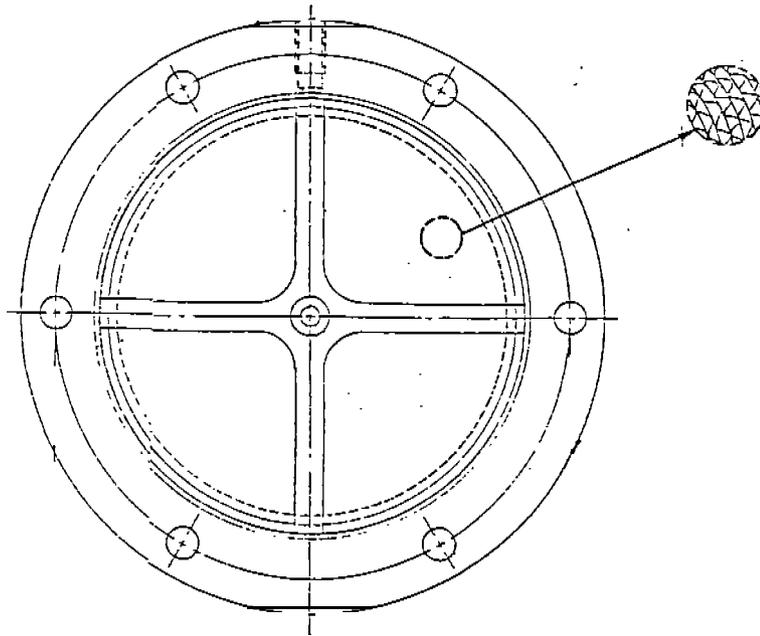

Figure 3. Intake Flame Arrester
8. () Remove the intake flame arrester. The intake flame arrester is shown in Figure 3. The flame arrester core is clean and has no apparent damage.